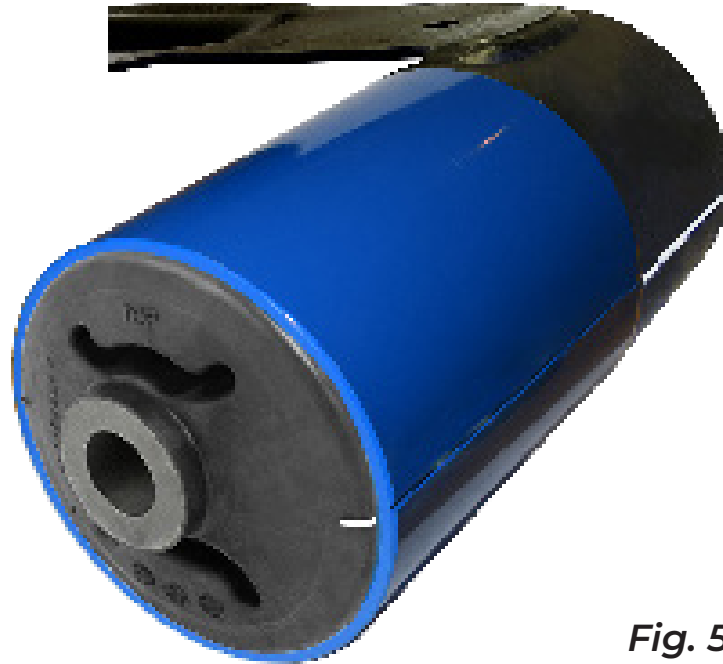

Fig. 5
4. Ensure marks on bush and receiver line up with bush inserted in receiver tube (fig. 5).